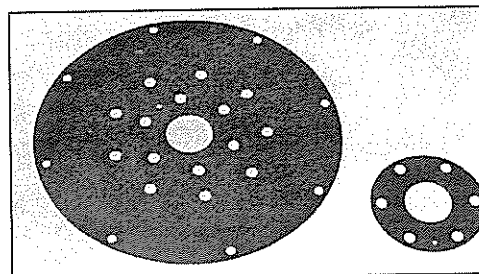

Figure 6-46
1. Inspect the drive discs for distorted or bent edges (figure 6-46). Inspect for worn mounting holes. Replace all defective discs as necessary.